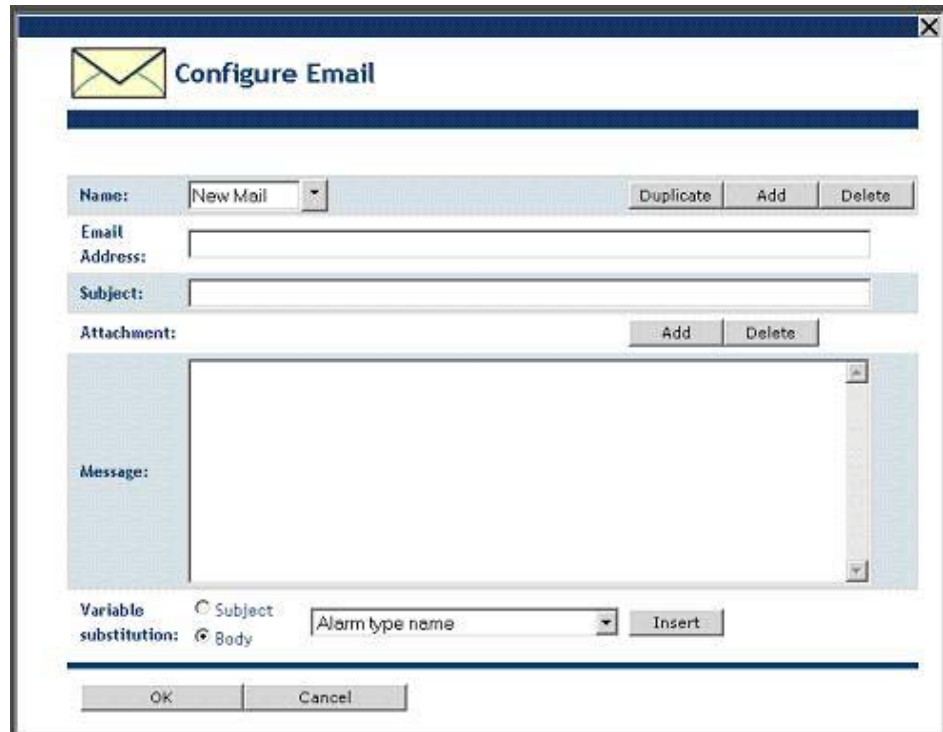

Figure 5.13 Configure Email Dialog
- Click the **Mail To** columns to open the Configure Email dialog shown in Figure 5.13.